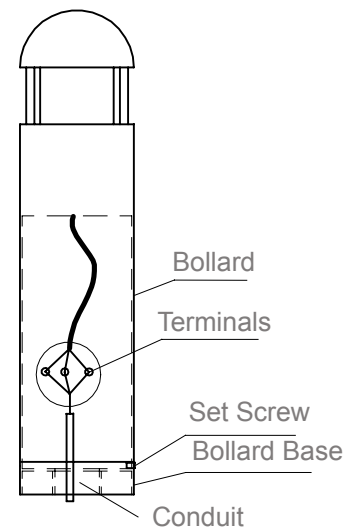

Figure4
6. Slide the Bollard over on Bollard Base. Be sure to check the LED position on the Bollard. See Figure 4.
7. Replace the Set Screws (3) to secure the Bollard to the Bollard Base. See Figure 4.